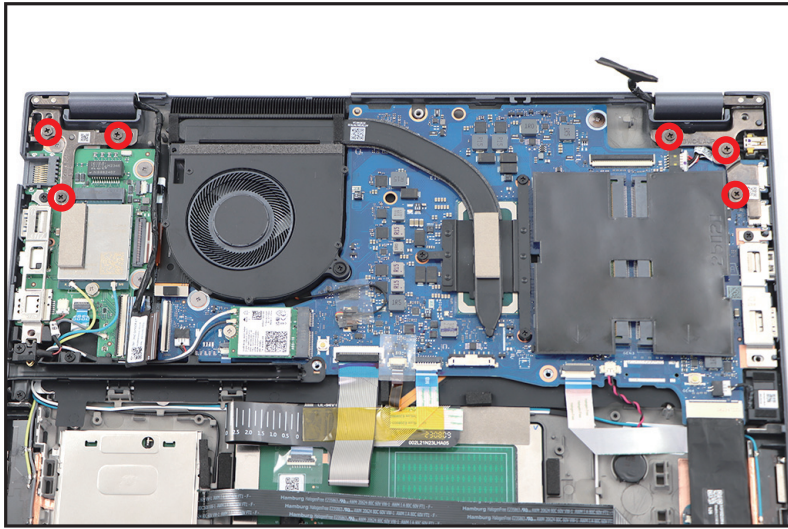

Figure 1-22. LCD Module Removal
3. Remove six (6) screws securing the LCD hinges (Figure 1-22).